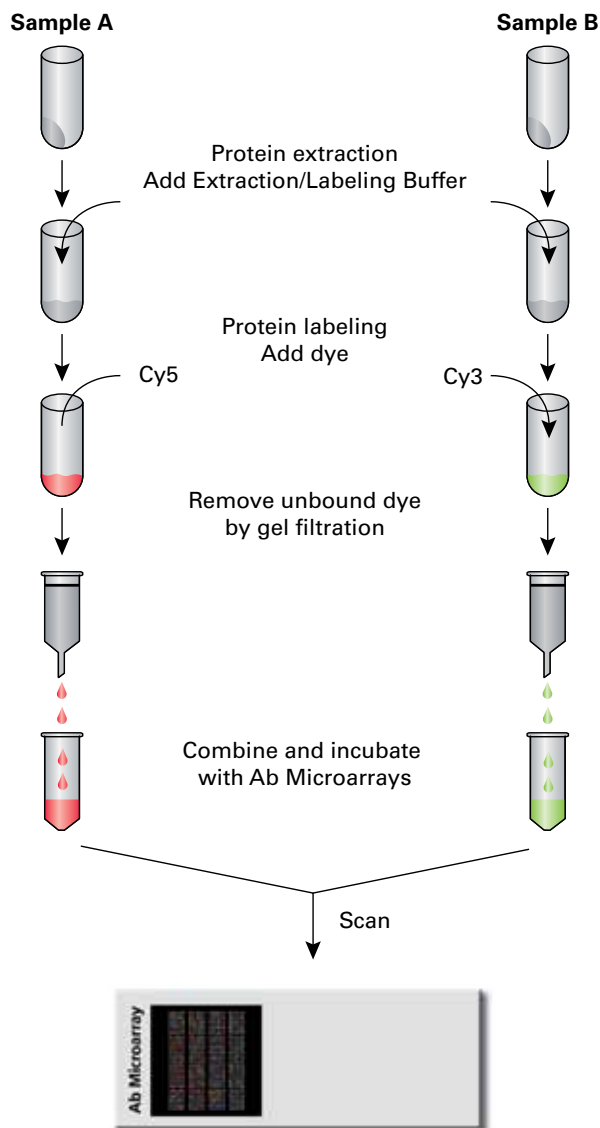

Figure 1. Comparing protein abundances with Ab Microarrays.
Clontech's **Antibody Microarrays** are powerful chip-based detection systems for profiling protein expression patterns among cells, tissues, and body fluids (1, 2). The arrays are composed of hundreds of distinct monoclonal antibodies covalently immobilized on standard-size (75 x 25 x 1 mm) glass slides (Figure 1), a platform compatible with most commercially available microarray scanners. With this innovative technology, you can assay hundreds of cellular proteins in a single experiment.
Ab Microarray 500 Slides are provided as a set of two identical arrays. Each array consists of at least 500 distinct, well-characterized monoclonal antibodies (Figure 1). The antibodies detect a wide variety of intracellular proteins—both cytosolic and membrane bound—representing a broad range of functions including apoptosis, cancer, cell-cycle regulation, gene transcription, and neuroscience. This functional classification is included in the Microarray Analysis Workbook for your reference. Though this array is primarily designed to measure human proteins, many of the antibodies recognize homologous proteins in mice and rats (3).